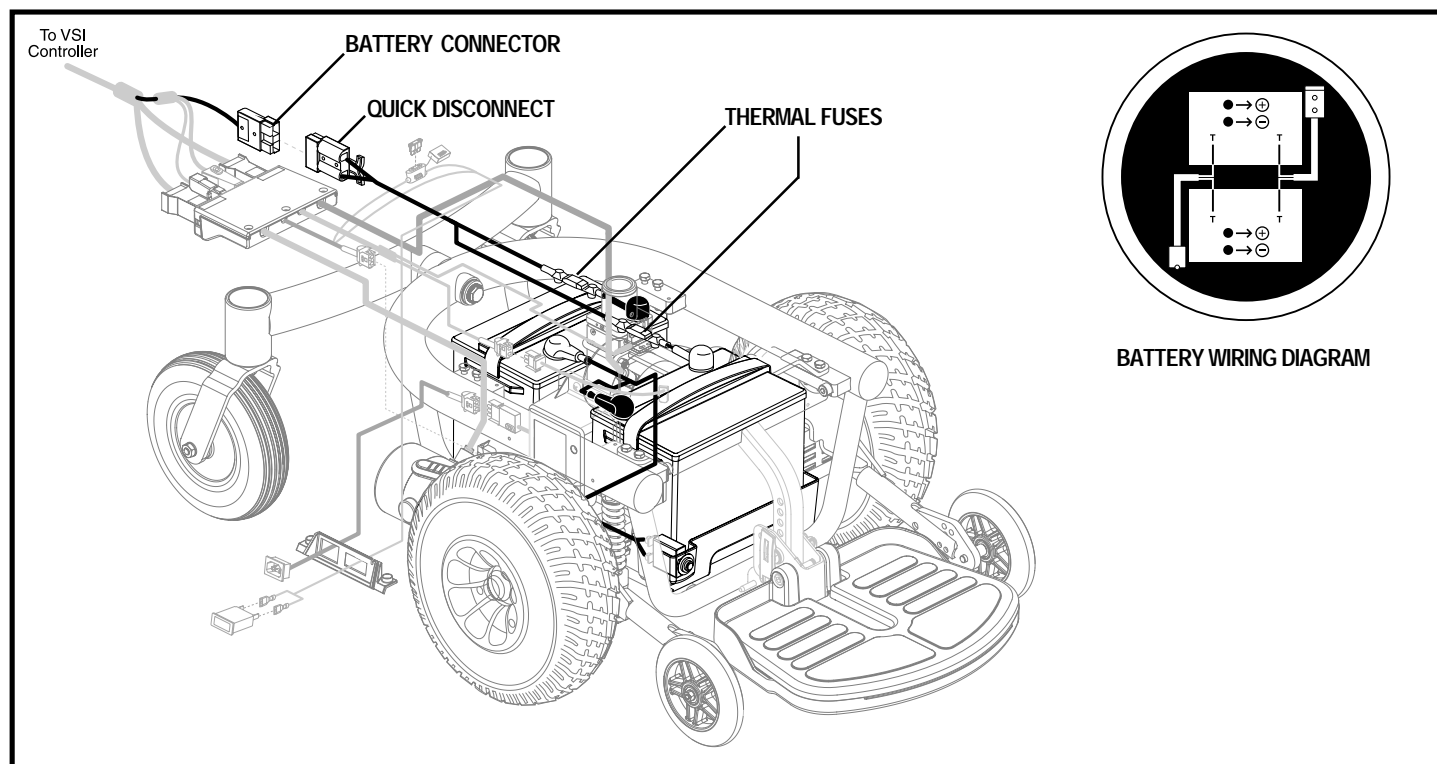

Figure 35. Jazzy 1103 Ultra Battery Connections
A battery wiring diagram is printed on a decal located on the battery tray. See figure 35.
5. Unplug the battery connector. See figure 35.
18. Connect the wiring harnesses to the front battery. See figure 35.
19. Connect the wiring harnesses to the rear battery. See figure 35.